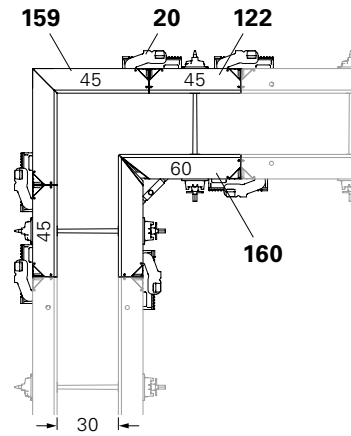

Fig. C2.06
- Wall thickness 30 cm: Fig. C2.06